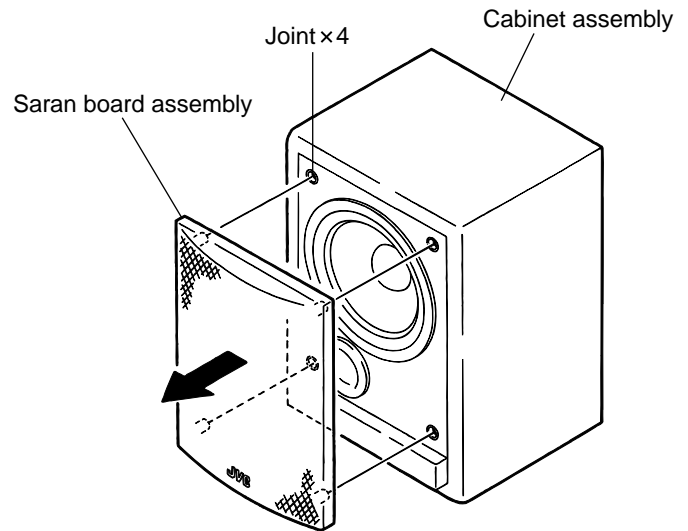

Fig.1
■Removing the speaker (See Fig.1 and 2)